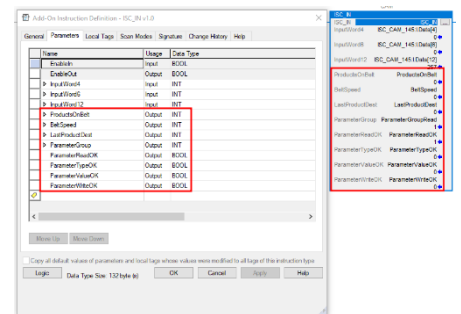

Figure 37: Output Data Types for AOI_ISC_CAM_v2_INPUTS
23. Add the ISC CAM Module inputs, words which correspond to the AOI, Figure 37.
24. Create unique data types for the next four AOI output items of size INT, Figure 37. Already created UDTs could be used for this step.
25. Create unique data types for the next four AOI output items of size BOOL, Figure 37. Already created UDTs could be used for this step.